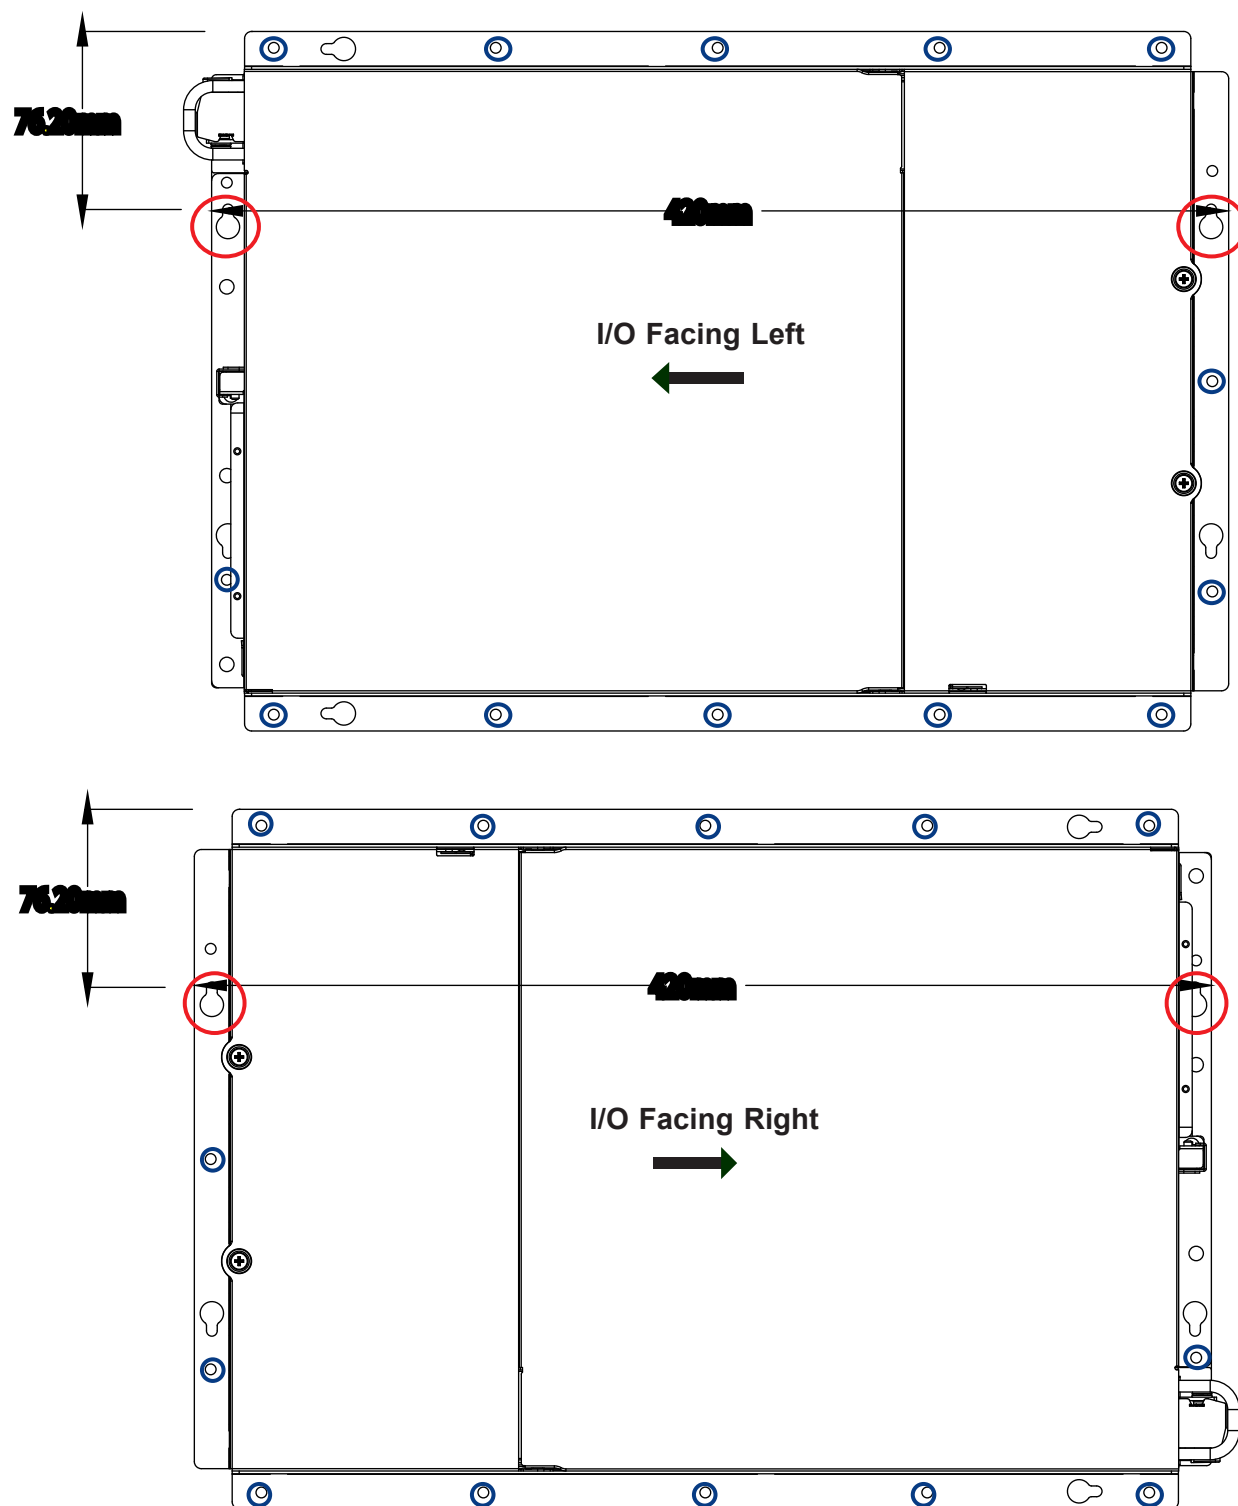

Figure 2-16. Possible Mounting Orientations
3. Mark two keyhole spots on the surface where the server will be mounted. The two keyholes for each orientation are circled in red. See Figure 2-16.
6. Install screws or nails in all the holes circled in blue. See Figure 2-16.